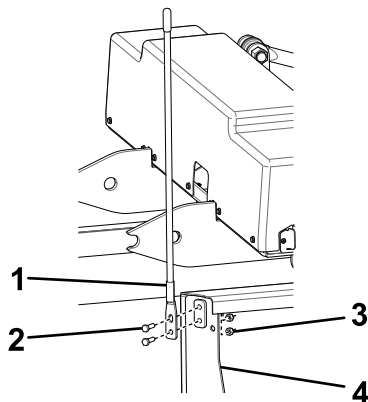

Figure 14
1. Attach the blade guides to the wing blade using 4 bolts (5/16 x 1 inch) and locknuts (Figure 14).